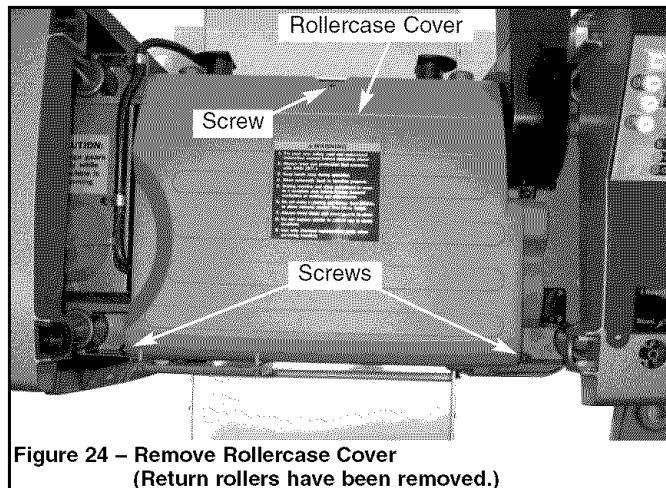

Figure 24 – Remove Rollercase Cover
- Remove the return rollers. Remove three (3) screws and lift the rollercase cover up from the rollercase (see Figure 24).